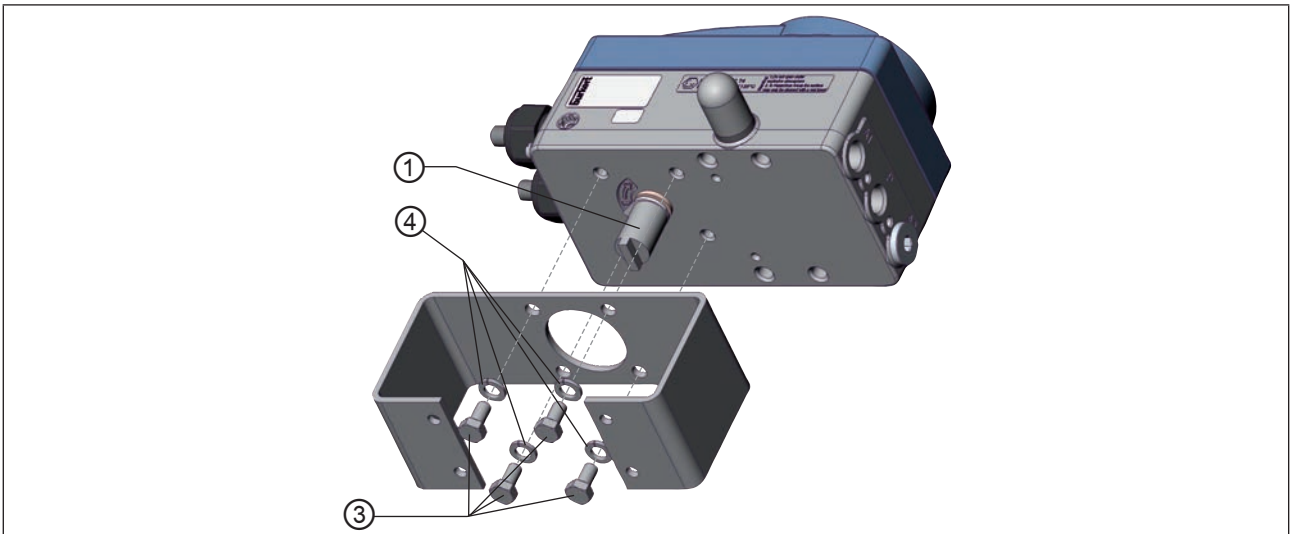

Figure 28: Attach assembly bridge (schematic representation)
- Attach the assembly bridge to the positioner using 4 cheese-head screws ③ and circlips ④. (see "Figure 28").